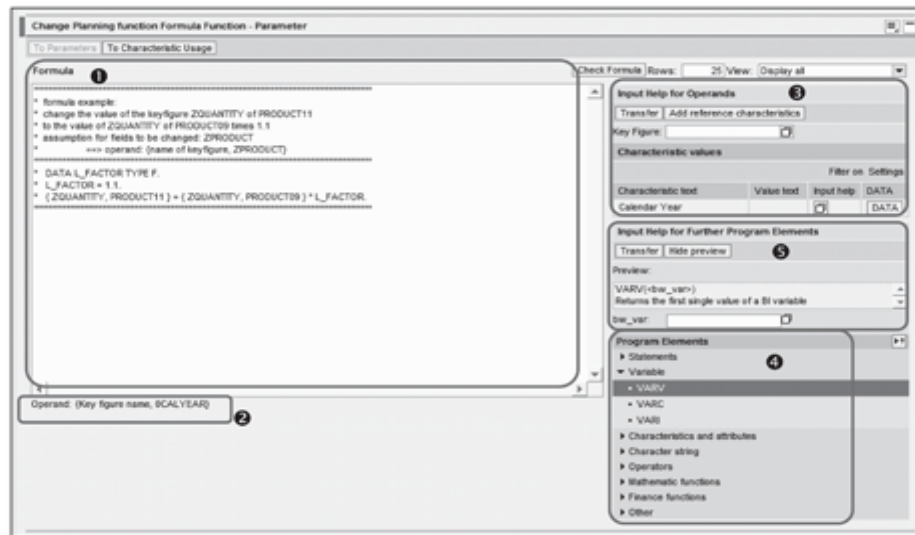

Figure 12.64 Formula Function Parameter Screen
The parameter screen for the Formula planning function is shown in Figure 12.64.
You can write your planning function in the formula editor on the Parameter screen (1 of Figure 12.64). The operands for writing the formula are based on the key figure and characteristic usage settings for the function. We've used 0CALYEAR as the field to be changed, so the operand is {key figure name, 0CALYEAR} (2). You can also use the help available on operands when creating a formula (3).